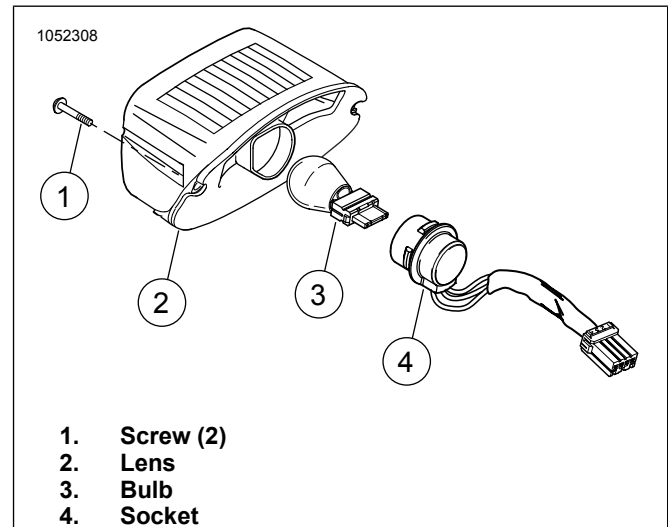

Figure 1. Tail Lamp Lens
2. See Figure 1. Remove two screws (1).
3. Remove lens (2) from tail lamp assembly.
12. See Figure 1. Install lens (2) and two screws (1). Tighten.